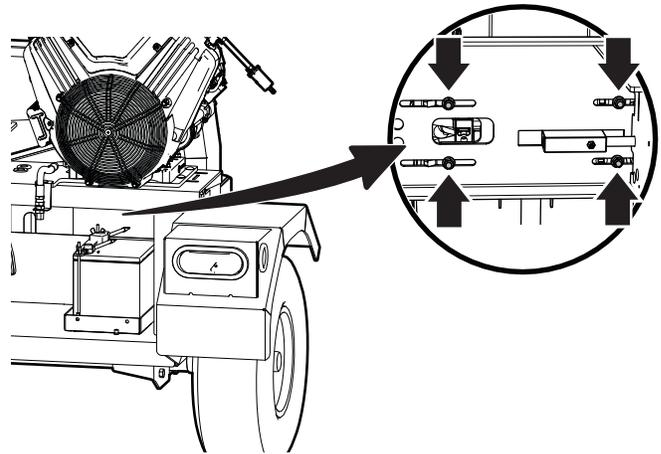

Figure 26—Engine mount bolts
2. Loosen (do not remove) the four bolts that attach the engine mount to the machine frame. See *Figure 26*.
3. Loosen (do not remove) the four bolts that attach the engine mount to the machine frame. See *Figure 26 on page 51*.
1. Loosen (do not remove) the four engine mount bolts. See *Figure 26 on page 51*.